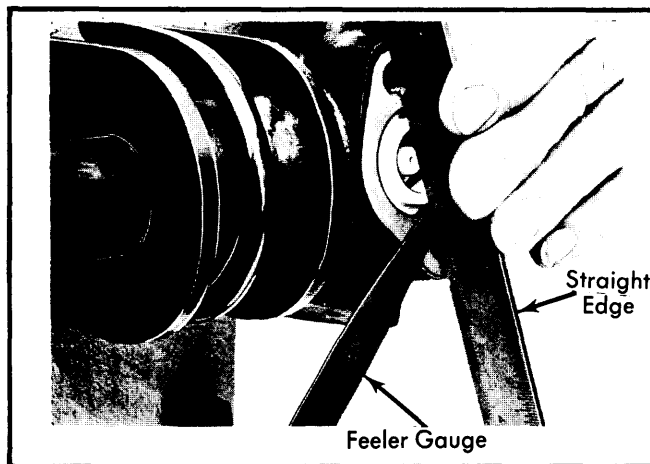

Fig. 1 Measuring Rack Damper Piston End Play (Cam Gear)
3) Place rack damper piston in housing without "O" ring or spring. Using straight edge and feeler gauge, measure end play between end of piston and housing (see Fig. 1). Measure thickness of gasket and calculate shim thickness required to obtain a total thickness, between gasket and shim, of .001-.006" (.02-.15 mm) greater than the measured piston end play to obtain correct preload. Install spring and "O" ring in piston, install shims, gasket and cover.